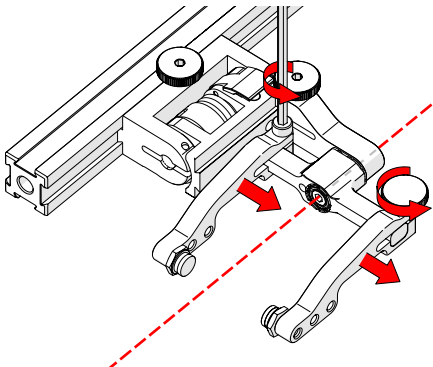

Fig. 66 - Adjust probe holder arms
5. Loosen the probe holder arm adjustment knob (Fig. 66) and remove the outer probe holder arm from yoke.
6. Adjust the inner probe holder arm as required to best centre the probe on the yoke's pivot axis (Fig. 66).
**TIP:** The probe holder yoke can accommodate many different probe and wedge sizes of varying widths. When scanning, it is best to centre the wedge with the yoke's pivot axis to reduce wedge tipping. Position the inner probe holder arm accordingly with the centre of the yoke (Fig. 66).